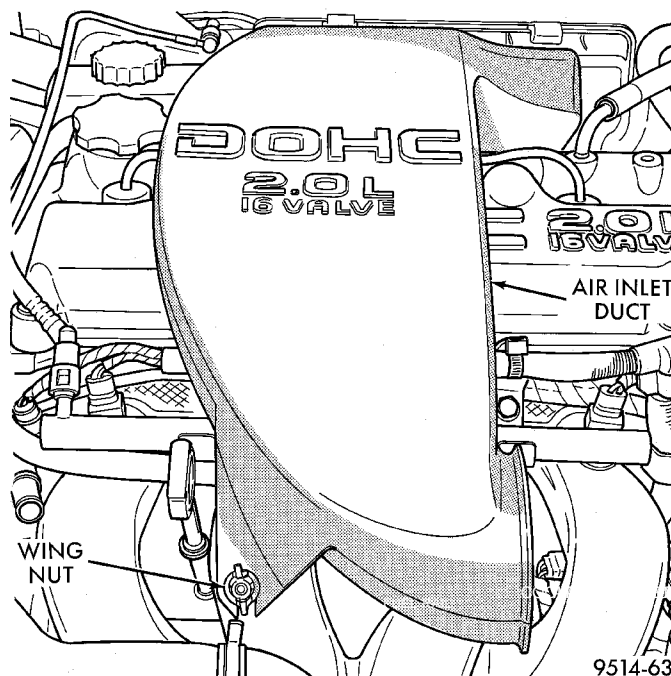

Fig. 21 Fresh Air Inlet Duct
(3) Remove fresh air inlet duct (Fig. 21). Remove wing nut on intake.